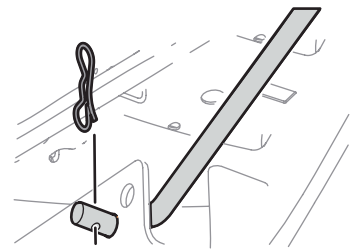

Figure 23
6. Pull the bow-tie pin out of the front deck lift rod securing it to the deck. See Figure 23. Slide the deck lift rod out of the front hanger bracket.